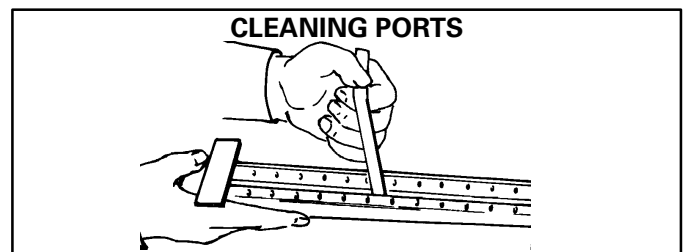

FIGURE 20
- 16 – Clean burner ports by inserting a cleaning tool (made from a piece of sheet metal cut to fit the burner ports) and work in and out of each port. See figure 20.